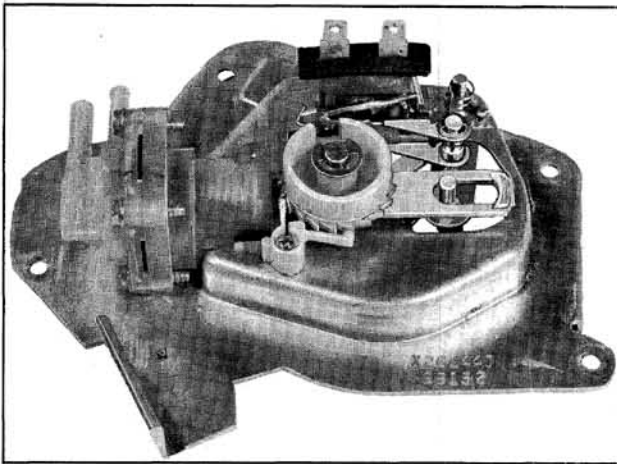

Fig. 13-208 Idling Position
2. Rotate cam until pump is in idling position. (Fig. 13-208)